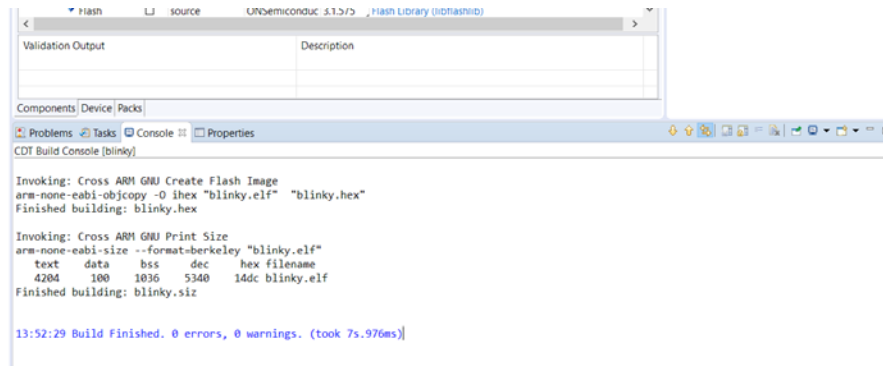

Figure 8. Example of Build Output
- When the build is running, the output of the build is shown in the onsemi IDE C/C++ Development Tooling (CDT) Build Console, as illustrated in Figure 8.